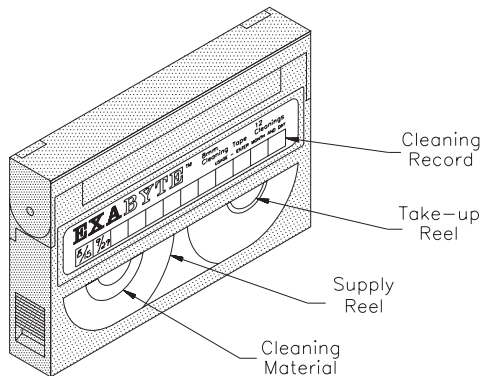

Figure 11 Exabyte 8mm Cleaning Cartridge with label showing cleaning cycles left
2. Check the usage record on the label of the cleaning cartridge to make sure that there is at least one cleaning cycle remaining (see Figure 11). If there are no cleaning cycles remaining, discard the cleaning cartridge and use a new one.